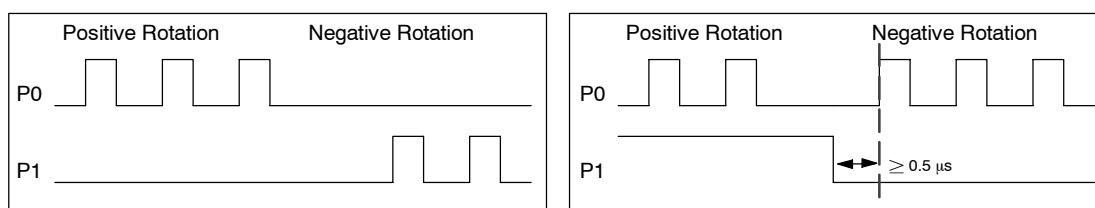

Figure 9-11 Rotation Options for Positive Polarity
- ☐ Use the Pulse and Directional Outputs tab to select the polarity of the outputs and to select the direction control method. See Figures 9-11 and 9-12 to see the effects of polarity and direction control method selections.